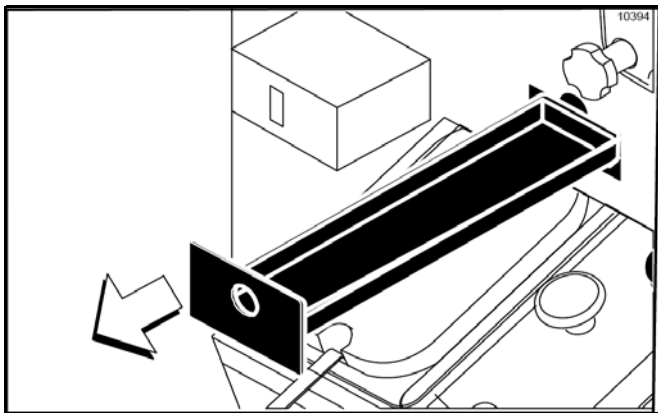

Figure 6-123
8. Remove the long drip pan from the front panel. Take it to the sink for cleaning. (See Figure 6-123.)